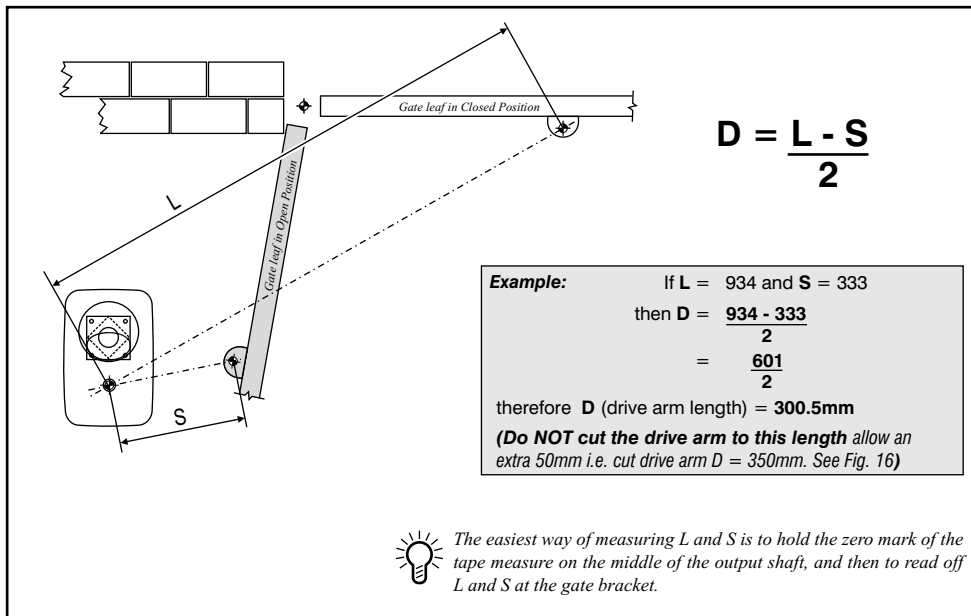
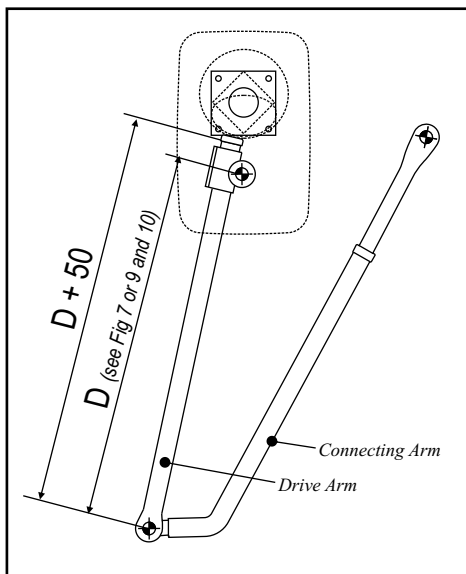

Figure 15 Determining Drive Arm Length for Standard Pedestal & Outward Opening Gates
Figure 16 Adjust Drive Arm length
Measure dimensions L (long) and S (short) as in Fig. 15 and calculate the drive arm length D as shown in Fig. 15. **DO NOT CUT THE DRIVE ARM TO THIS LENGTH.** Cut the drive arm at least 50mm longer than D. The cut length is therefore = $D + 50\text{mm}$. (See Fig. 16)
From the tables on Fig. 8, determine the drive arm length D, and select the **boldface** value if the motor is mounted in the recommended. **DO NOT CUT THE DRIVE ARM TO THIS LENGTH.** Cut the drive arm at least 50mm longer than D. The cut length is therefore = $D + 50\text{mm}$ (see Fig. 16)
Determine the drive arm length (D) from Figures 10 and 11. **DO NOT CUT THE DRIVE ARM TO THIS LENGTH.** Cut the drive arm at least 50mm longer than D . The cut length therefore = $D + 50$ mm (see Fig. 16)